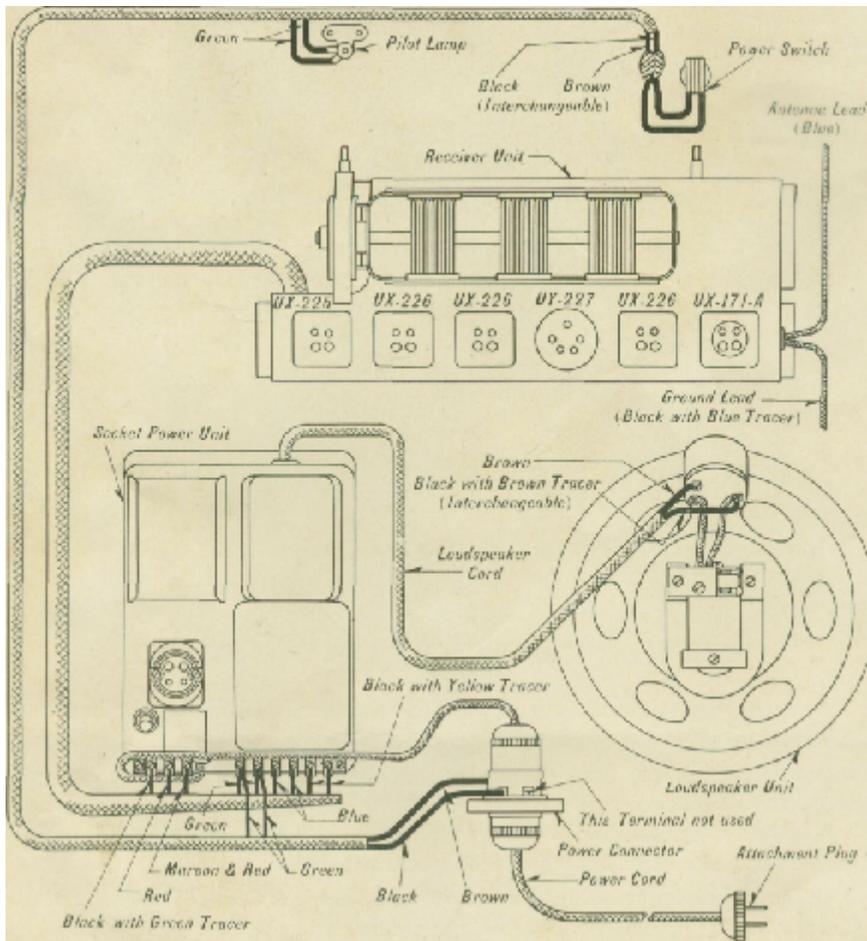

Fig. 6—RCA Radiola 51 Cabinet Wiring
**Power Supply**—Reception may possibly be improved by reversing the attachment plug (Figure 6) at the electrical outlet.